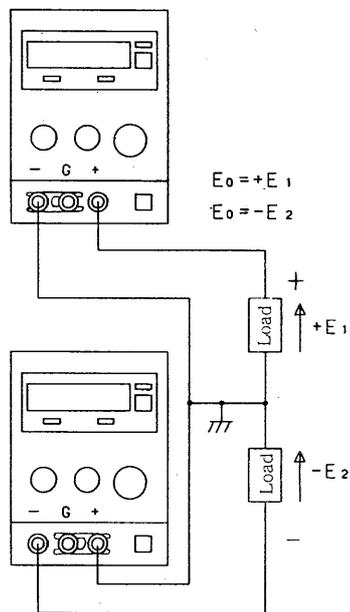

Figure 13
- In connection in Figure 13, the output voltage is positive or negative.